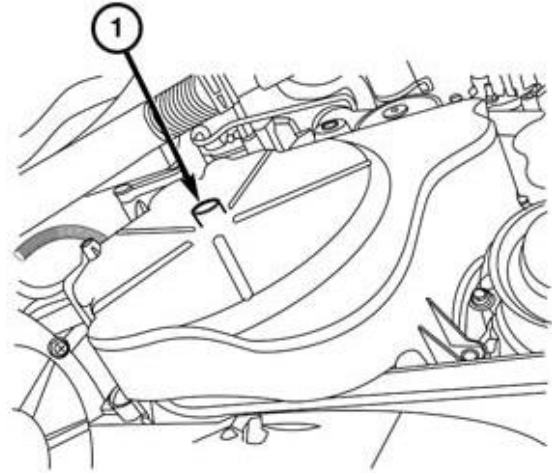

Figure 31 – NVH Cover
70. Remove the NVH cover (1) from the crankshaft damper (Figure 31).
16. Install the vibration damper cover and tighten the bolts to 10 N·m (89 in. lbs.) (Figure 31).